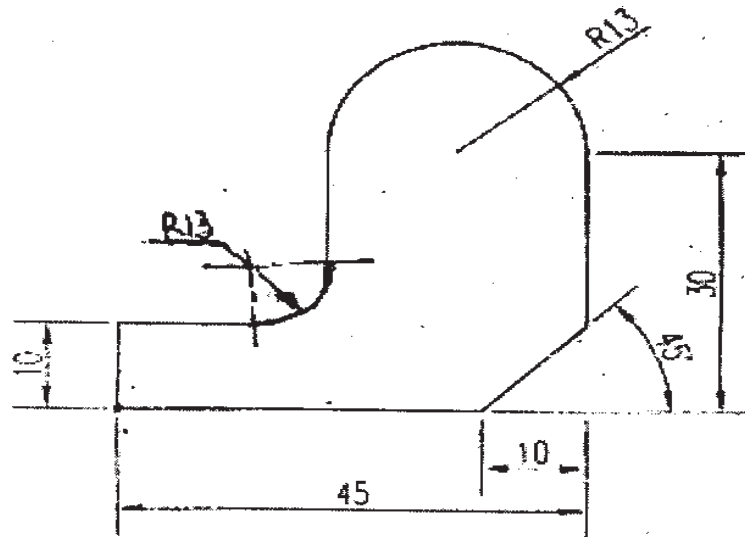

Figure 2
- Q3) a)** Write a complete APT program (Geometric and Motion commands) for the work piece as shown in Figure 2. [10]